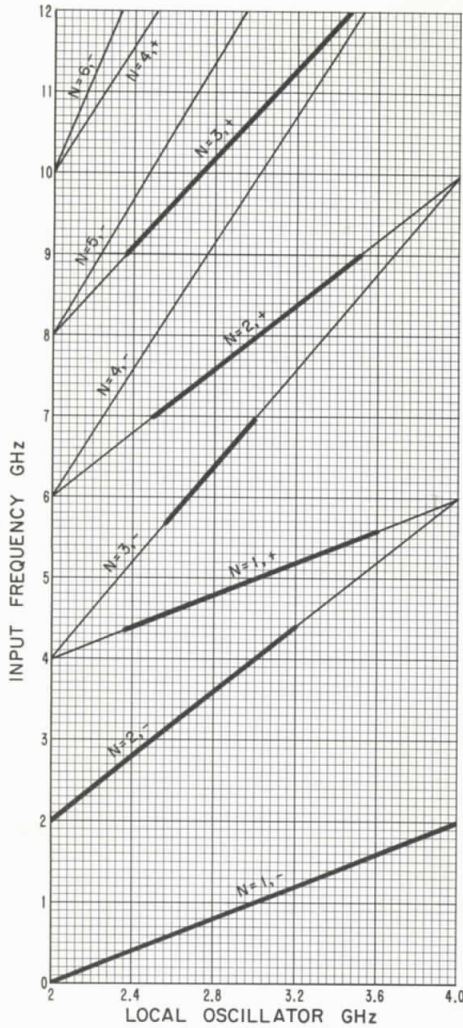

Figure 5. HP 851B/8551B Tuning Curves
Given a reference frequency, F_r , one can determine the proper local oscillator harmonic number and sign from Equation (3), or from the spectrum analyzer dial, or from Figure 5. These values, used in Equation (5) to solve for F_c , give the comb tooth frequency to use with fundamental mixing to set up the reference frequency. Example 2 illustrates the procedure. A pre-selector (HP 8441A) can be used to eliminate multiple responses after the center frequency has been set up.
For an example, we will set up a reference frequency at 7.5 GHz. From Figure 5 we see that the 2+ mixing mode is required. Substituting in Equation (5),